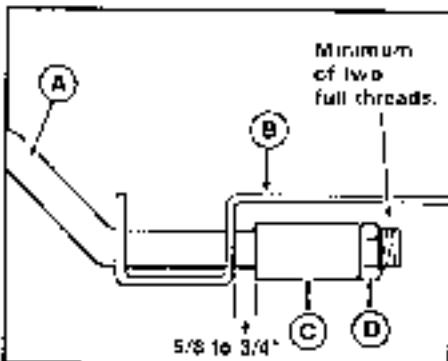

Figure 30. Brake Adjustment
4. Locate the brake band (figure 30) which is located to the outside of left-seat tire.
6. Measure the gap between the spacer and the brake band (figure 30). The gap should measure between 5/8 inch and 3/4 inch (16 to 19 mm). If not, loosen or tighten the brake rod nut (D) to achieve measurement. For safety, a minimum of two full threads must extend thru the nut.